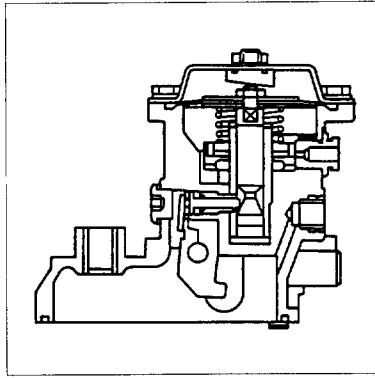

Fig.9-34
- ② Eccentric cam type is used so that adjustment can be performed from outside. (Fig.9-34)